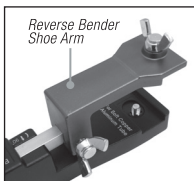
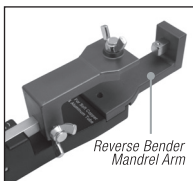

Fig. 10
Fig. 11
1. Attach **REVERSE MANDREL SHOE ARM** (Fig. 10) and **REVERSE MANDREL** arm (Fig. 11) as shown.